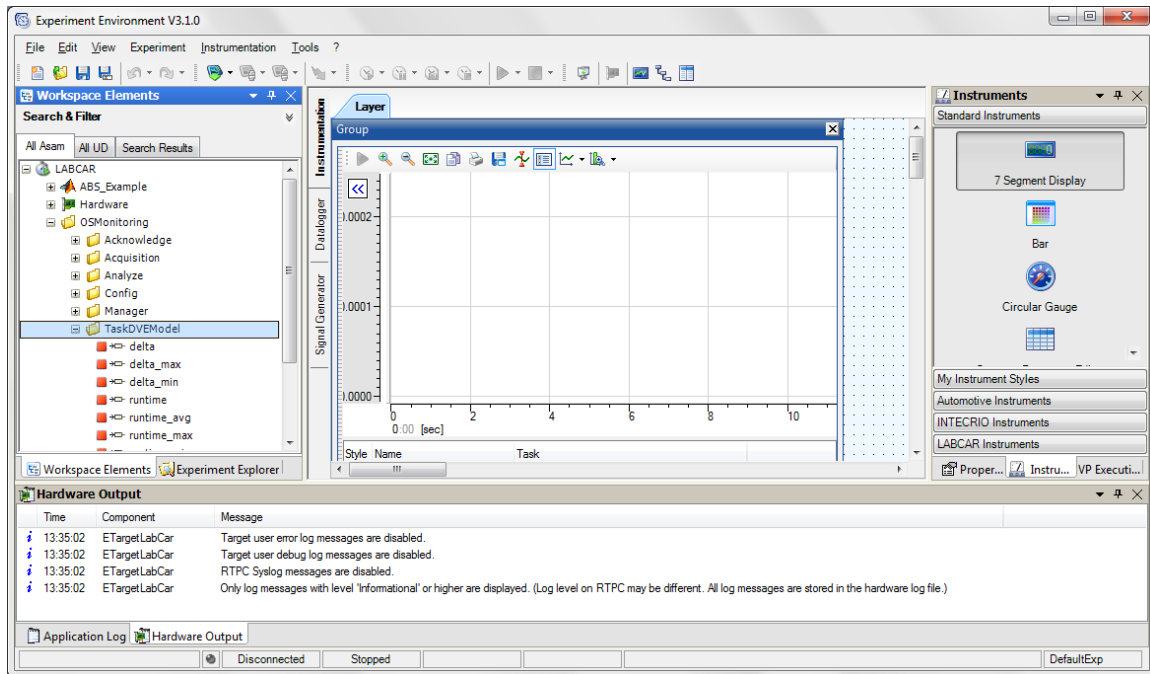
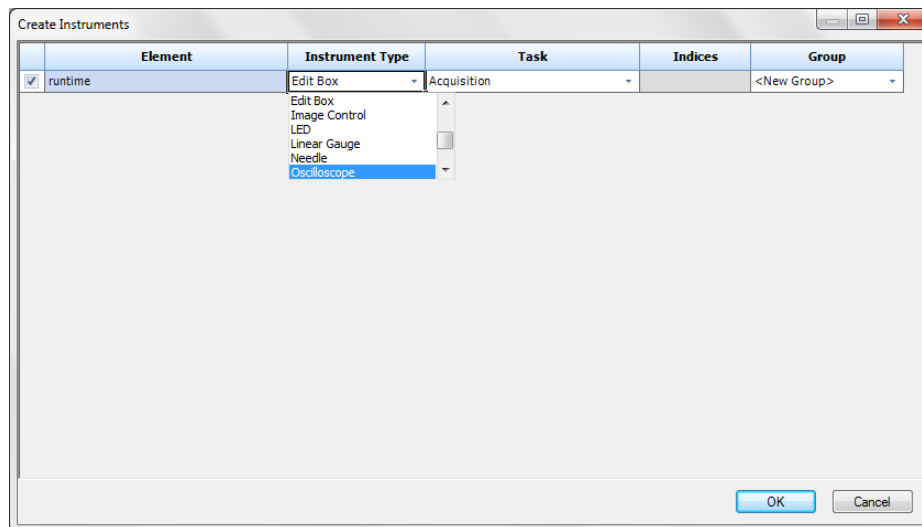

Figure 22. Real time run.
Figure 23. Instrument type settings.
4. From the LabCar Experiment Environment, drag the item named runtime (LABCAR > OSMonitoring > TaskDVEModel > runtime in Figure 22). Select the Oscilloscope out of the dropdown menu labeled Instrument Type (Figure 23). On the plot (Figure 22), click the y-axis and change Maximum Value to 0.005.